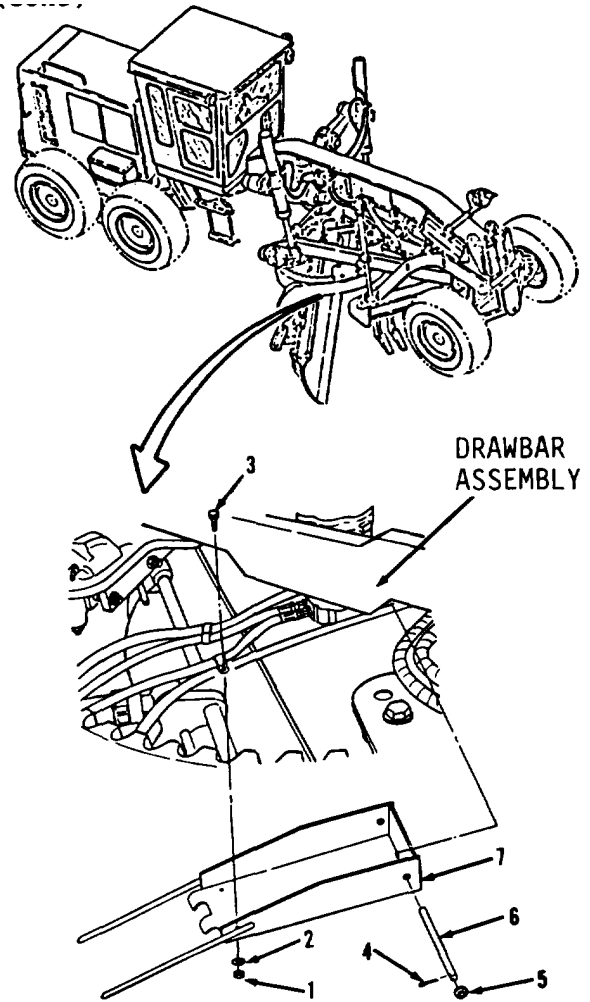
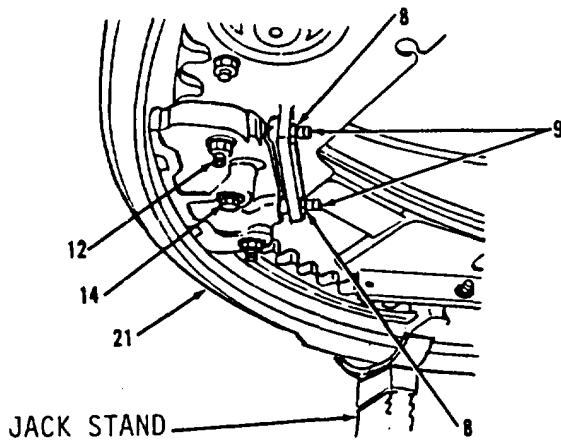
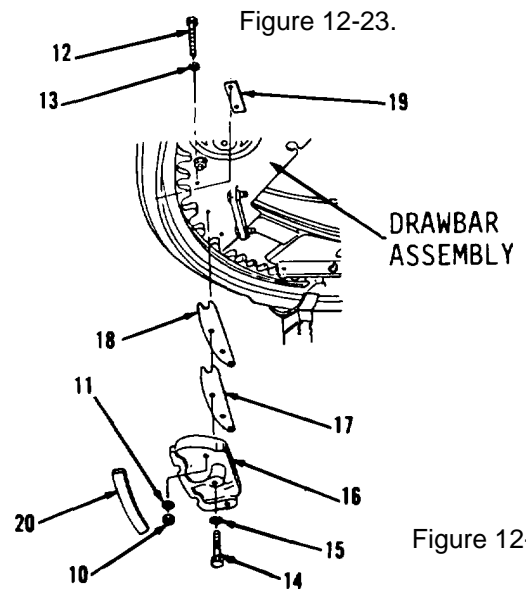

Figure 12-23.
Figure 12-24.
Figure 12-25.
1. Remove two nuts (1), washers (2) and bolts (3, Figure 12-23) from drawbar assembly.
2. Remove two cotter pins (4), washers (5), pin (6) and guide (7).
3. Using jack stands, support circle (21, Figure 12-24).
4. Loosen eight nuts (8).
5. Turn eight setscrews (9) all the way down.
6. Remove eight lock nuts (10), washers (11), bolts (12), washers (13), four bolts (14), washers (15), shoes (16), 24 shims (17), 28 shims (18), eight strips (19) and four strips (20, Figure 12-25).